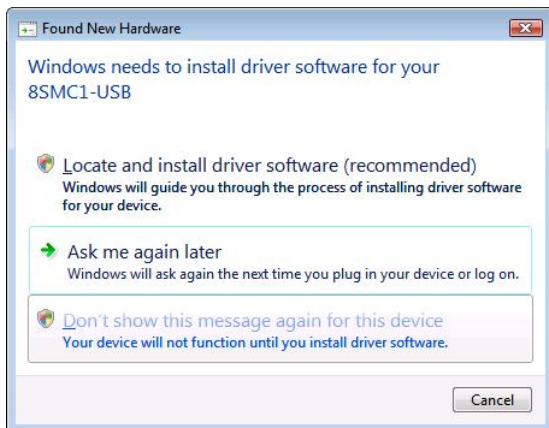

Figure 72. Skip automatic driver installation choosing "Don't show this message again for this device" option.
- Then disconnect USB cable of 8SMC1-USBhF controller and connect it again. When Hardware Wizard will found new hardware and offer you to install driver skip it choosing "Don't show this message again for this device" option (see Figure 72).